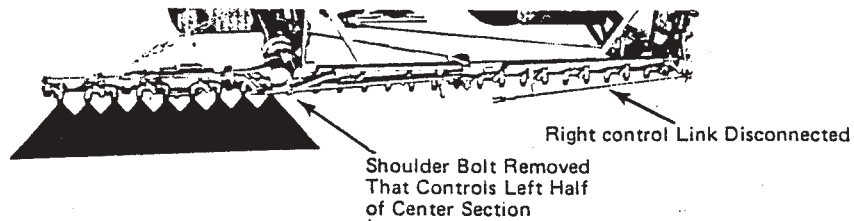

Figure 23. Shoulder Spraying With "FC" Spray Bar (Left Side Shown)
1. See Figure 23. and set the operating valves and levers for spraying with "TUC" spraybar.